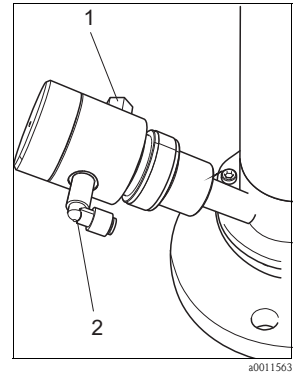

Fig. 19: Outlet safety seal
2. Mount the delivered pneumatic outlet safety seal (Fig. 19).
5. Connect the third fitting of the Y-piece to the compressed air connector of the outlet safety seal (Fig. 19, pos. 2).
6. Connect the rinse water outlet hose to the valve connector (pos. 1, G $\frac{1}{4}$  or NPT  $\frac{1}{4}$ ", depending . to ordered version).